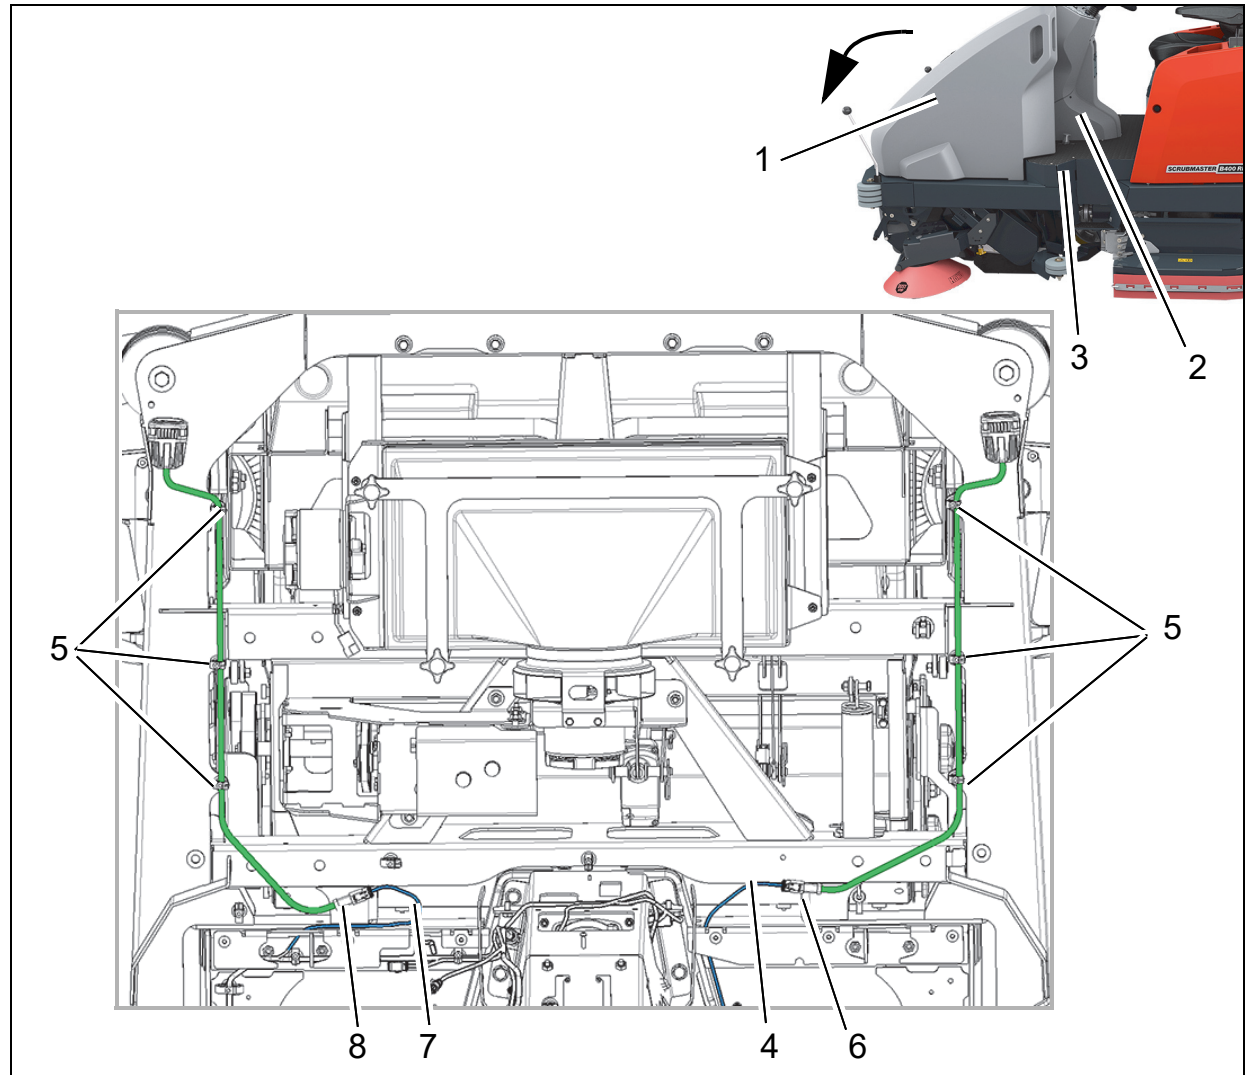

Fig. 4
Before installation, the hood (Fig. 4/1) must be folded forwards.
- Engine cover (Fig. 4/2)
- Floor mat (Fig. 4/3)
1. Disconnect plug E11/cable loom W3 on the right-hand side of the machine from the cable bundle and feed it through the recess to the front (Fig. 4/4).
2. Feed the cable of the right-hand LED working light through the cable bundle holder (Fig. 4/5) and connect it to plug E11 (Fig. 4/6).
3. Disconnect plug E1/cable loom W3 on the left-hand side of the machine from the cable bundle and feed it through the recess to the front (Fig. 4/7).
4. Feed the cable of the left-hand LED working light through the cable bundle holder (Fig. 4/5) and connect it to plug E1 (Fig. 4/8).